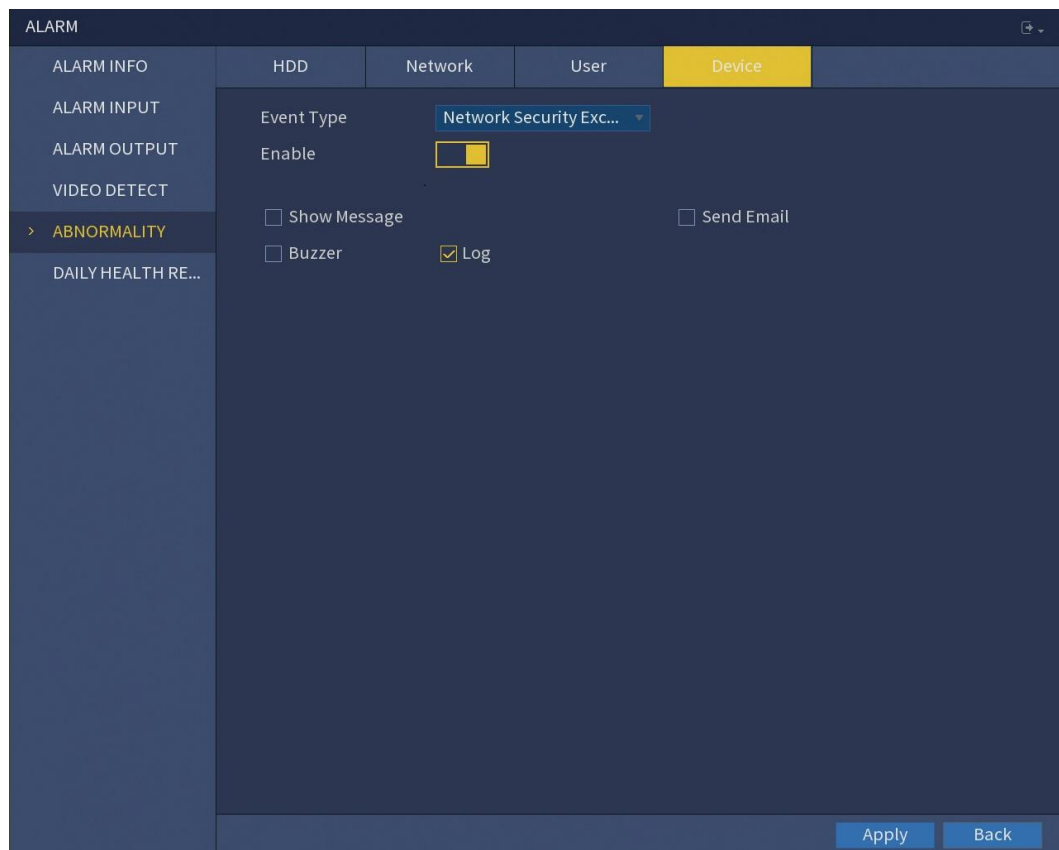

Figure 5-90
- In **Event Type** drop-down list, select **Network Security Exception**. See Figure 5-90.